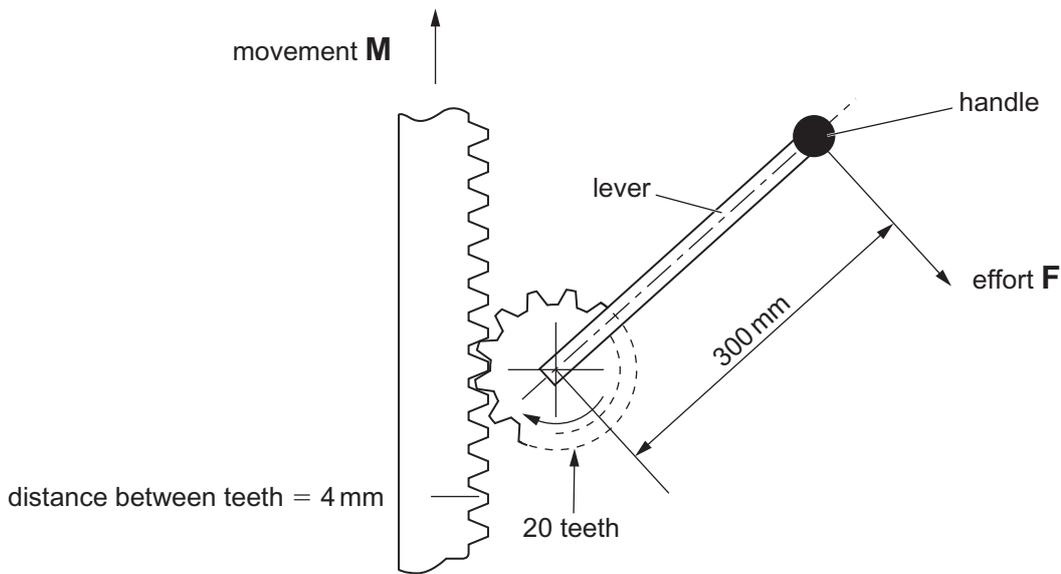

Fig. 6
- (c) Fig. 6 shows a mechanism, used on a machine in which the lever is rotated to produce movement **M**.
- (i) Name the mechanism in Fig. 6.